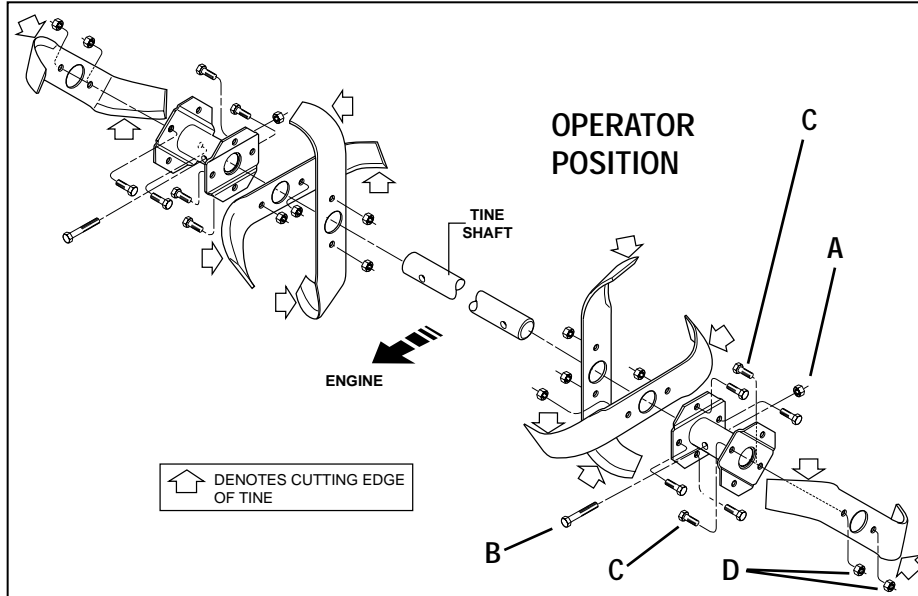

Figure 5-3: Tines, tine holders and installation hardware.
This is a CRT (counter-rotating tine) tiller and its tines must be mounted in the direction shown in Figure 5-3. If mounted with curves in the opposite direction, tiller will dig poorly and be more likely to run backward.
1. Use a 9/16" socket, 6" extension, a ratchet, and a 9/16" box end wrench to loosen the nut (A, Figure 5-3) and screw (B) that secure the tine holder to the tine shaft.
1. Use two 9/16" box end wrenches to remove the two screws (C, Figure 5-3) and nuts (D) that secure the tine to its tine holder.
2. When installing individual tines, do so in the reverse order from which they were removed. The two sets of *inboard* tines are installed so one set faces toward the transmission and the other faces away from it. The single *outboard* tine set faces toward the transmission housing. Also be sure the cutting edge at the top of each tine faces toward the operator position. (See Figure 5-3.)